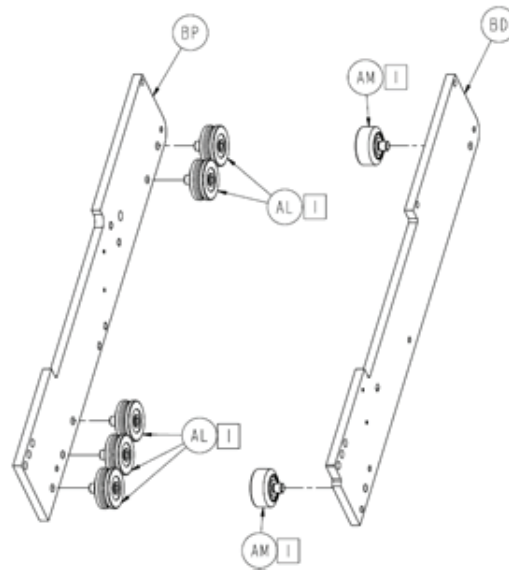

Figure 6:
8. Make sure that all of the rollers roll freely without wobble (Figure 6 on page 3). Using a torque wrench and a 1/4" hex wrench, make sure that the roller torque is 235-317 in-lb.